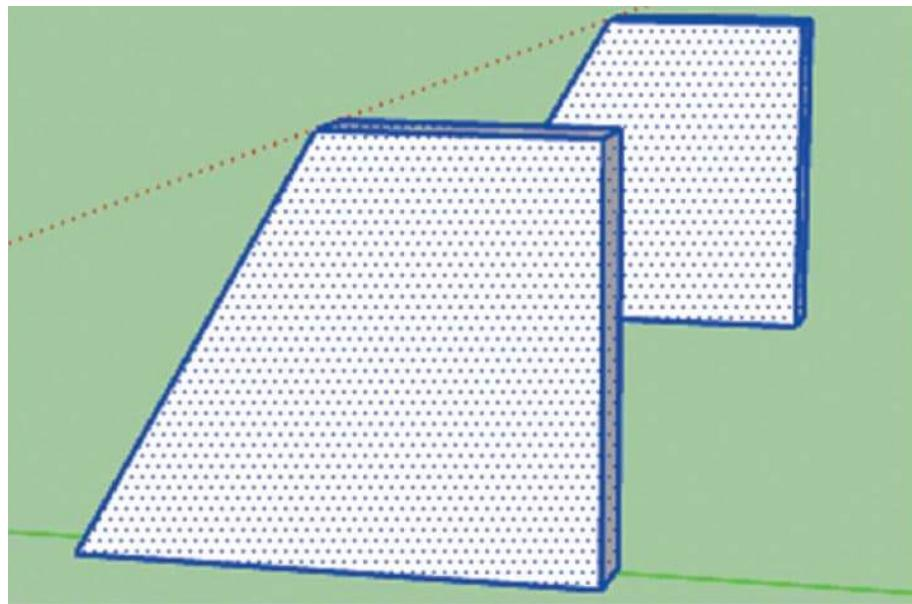

FIG. 3: Extrude the wing bracket to the desired thickness.
3. Extrude out the bracket and make a copy of it. Move them so they are about 50 mm apart, but not more apart than the width of the car (fig. 3).